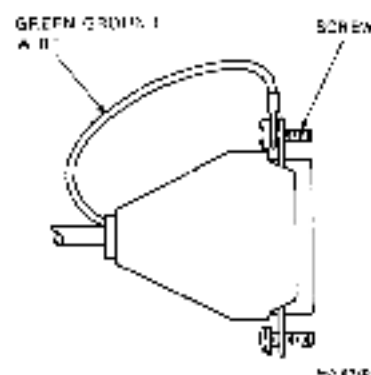

Figure 2-6 EIA Communications Cable Connector
7. Connect the communications cable to the appropriate communications connector. If you select EIA communications, connect the ground wire to the terminal communications connector. Figure 2-6 shows the cable connector with the ground wire connected.
1. Locate and connect the BC22A cable to the HARDCOPY connector on the rear of the VK100 terminal. The connector can only plug in one way. Connect the ground wire to the HARDCOPY connector. Figure 2-6 shows the cable connector with the ground wire connected.
2. Locate and connect the BC26B-01 Y-type cable to the HARDCOPY connector on the last VK100 terminal. The connector can only plug in one way. Connect the ground wire to the HARDCOPY connector. Figure 2-6 shows the cable connector with the ground wire connected.
4. Locate the new BC22B cable. Plug one BC22B cable connector into the male BC26B-E1 cable connector. The connector can only plug in one way. Connect the ground wire between the two connectors. Figure 2-6 shows the cable connector with the ground wire connected.
5. Plug the other BC22B cable connector into the HARDCOPY connector on the VK100 terminal being added to the string. The connector can only plug in one way. Connect the ground wire to the HARDCOPY connector. Figure 2-6 shows the cable connector with the ground wire connected.
3. Connect the two cables that were removed from the BC26B-01 Y-type cable. Be sure to connect the cable ground wires between the two connectors. Figure 2-6 shows the cable connectors with the ground wire connected.